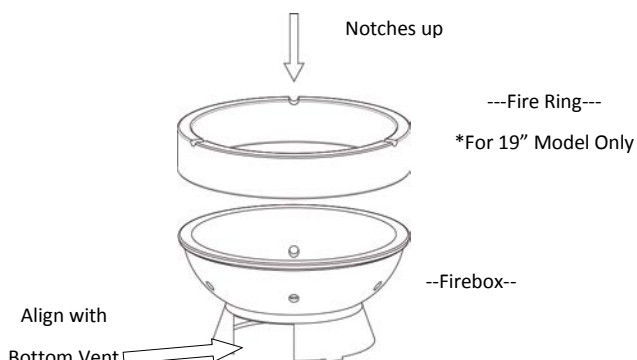

Figure 4
STEP 6 Place the fire ring on top of the firebox with notches up. The notches are used to secure the legs of the Cooking Grid Elevator. (See Figure 4)